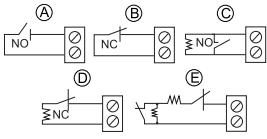

Figure 6: Auxiliary wiring options
**Note:** Figure 6 E illustrates a DEOL resistor setup that is available dependent on panel software version.